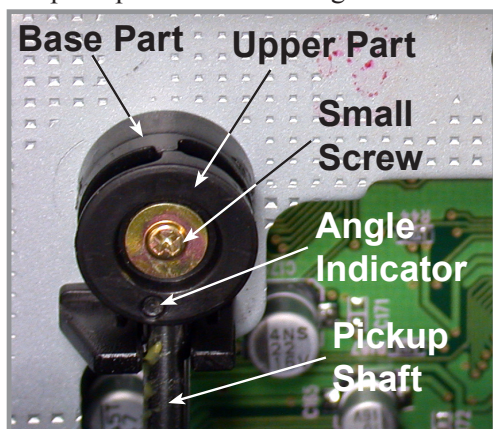

Figure 1
5. There are left and right black plastic pickup shaft holders located at the back-end of mechanism. The holder has two parts. The base part is larger and it is mounted on the pickup assembly plate. The upper part is thinner and it is held on the base part by a small screw to hold down the pickup shaft. Refer to figure 1.